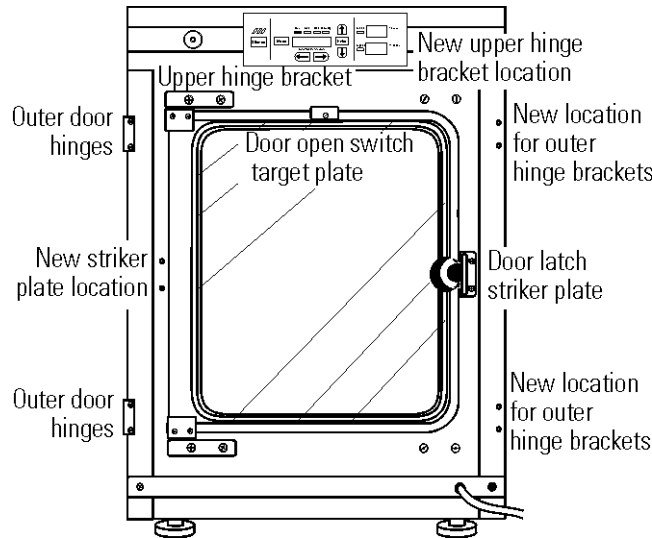

Figure 5-5. Component Locations
8. Refer to Figure 5-5 for the next steps. Remove the nylon screws along the right side of the cabinet. Remove the outer door hinges. Rotate them 180° and install them on the right side of the cabinet. Install the nylon screws in the holes vacated by the hinges.
17. Screw the threaded plugs into the holes vacated by the door hinge brackets where indicated in Figure 5-5.